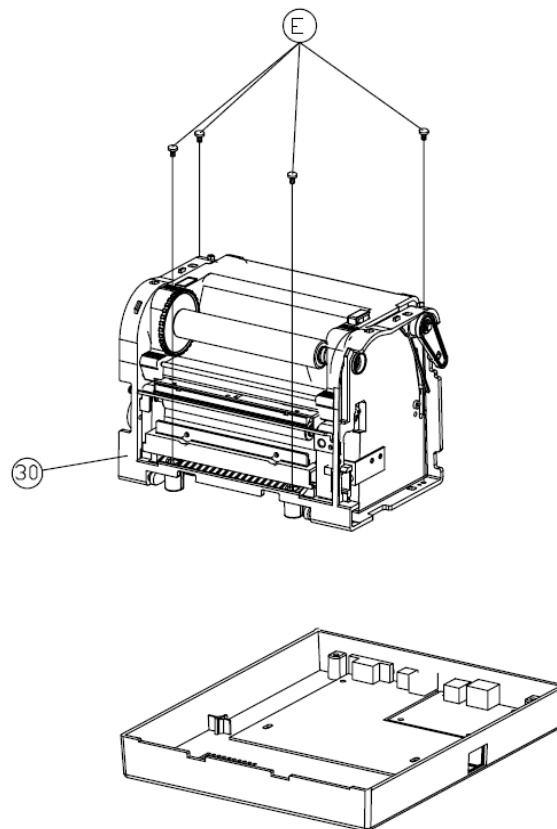

Figure 10.1.2
5. Remove the 4 screws (E).
6. Unplug all the connectors that are connected on the main board. Then remove the “Printer Chassis” (30) as shown in Fig. 10.1.2.